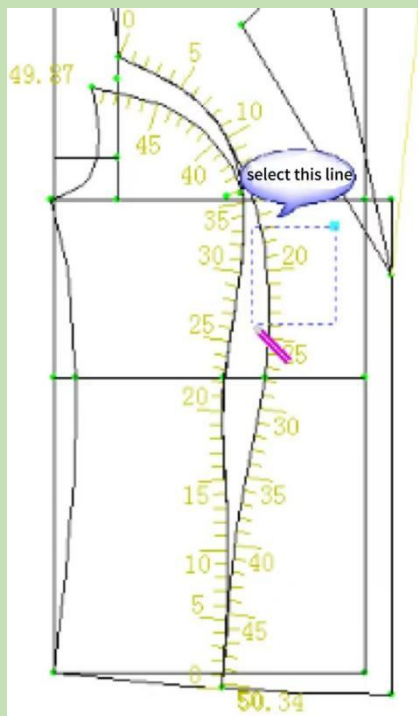

Figure4-58
1. Select the reference line by dragging with left button ( Figure4-58 )